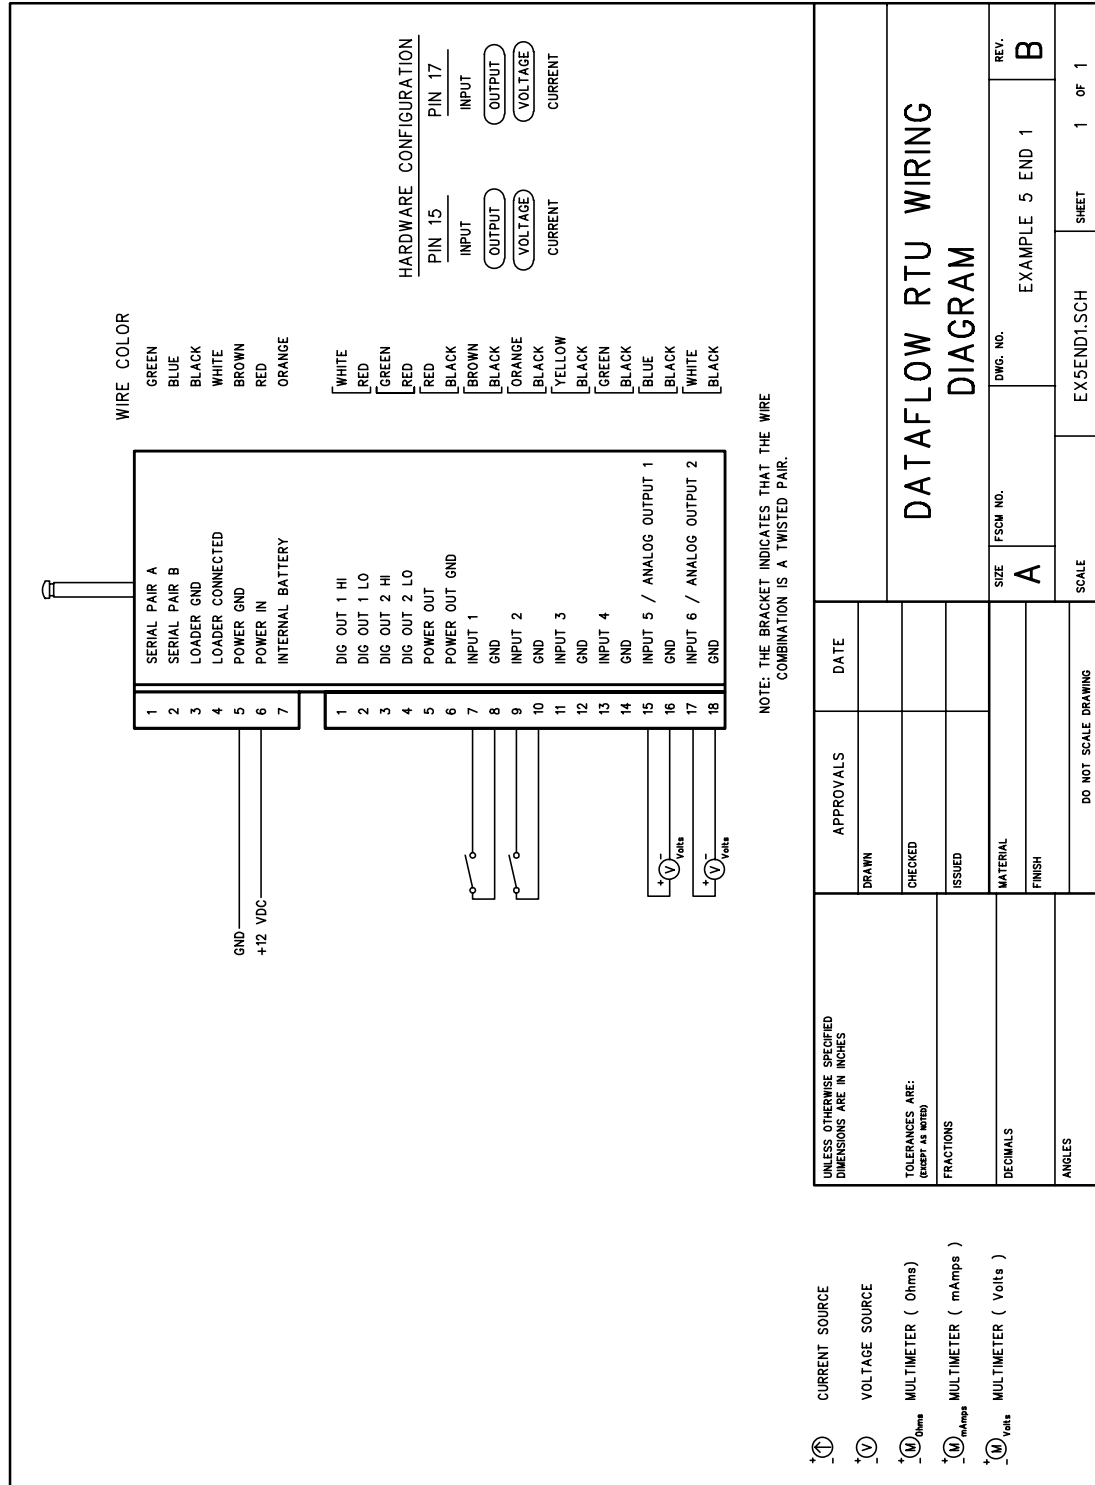

Figure B8 - EXAMPLE 5 RTU ID 1 Wiring Diagram
8.5.2 RTU ID 2 SETUP: Example 4 requires the other **DATAFLOW RTU** to be wired and its hardware configured according to Figure B8 - EXAMPLE 4 RTU ID 2 Wiring Diagram shown on page B-32. Load Software Programming configuration file **EXP4ID2.USR** into RTU ID 2.